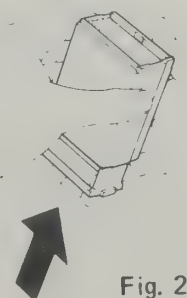

Fig. 2
- Load the batteries and slide the battery holder into the battery case. (Fig. 2)